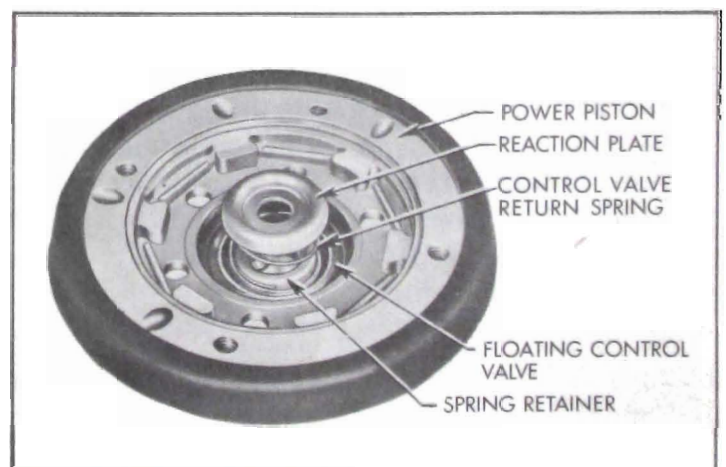

Figure 9-24—Installing Control Valve Spring and Small Reaction Plate
9. Set piston on flat surface hub down. Install control valve return spring on spring retainer, then place smaller reaction plate on spring. See figure 9-24.